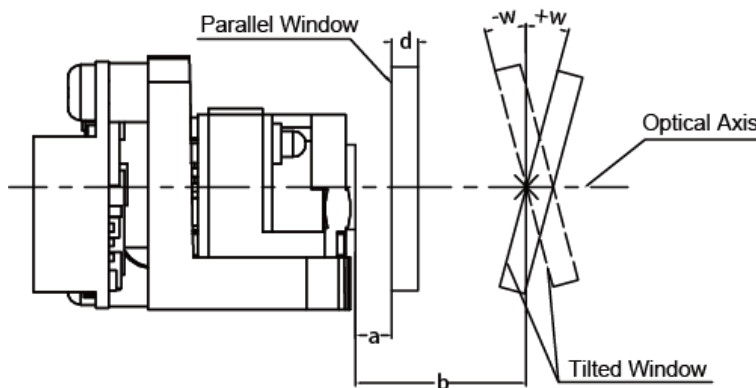

Figure 2-12
- **Parallel window** – Primary option for imager engines. The following window distance requirements should be satisfied: The maximum distance is measured from the front of the engine housing to the furthest surface of the window. In order to reach better reading performance, the distance from the front of the engine housing to the nearest surface of the window should not exceed a ($a=1\text{mm}$) and the distance from the front of the engine housing to the furthest surface of the window should not exceed $a+d$ ($a=1\text{mm}$, $d=2\text{mm}$), as shown in **Figure 2-12**.